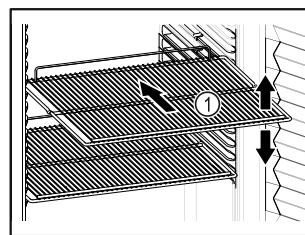

Fig. 63 Example illustration
- ❑ If there are adjustable shelves Fig. 63 (1), position them as required.